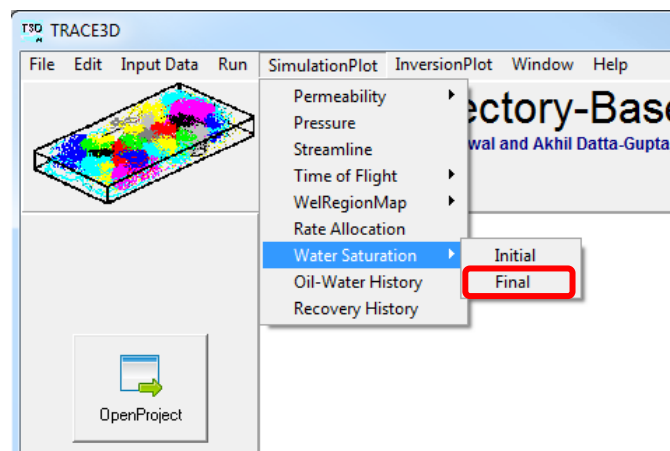

Figure 8: Accessing and visualizing simulation results
- a. By clicking plots we can select the **Plots** shown in **Figure 8**.